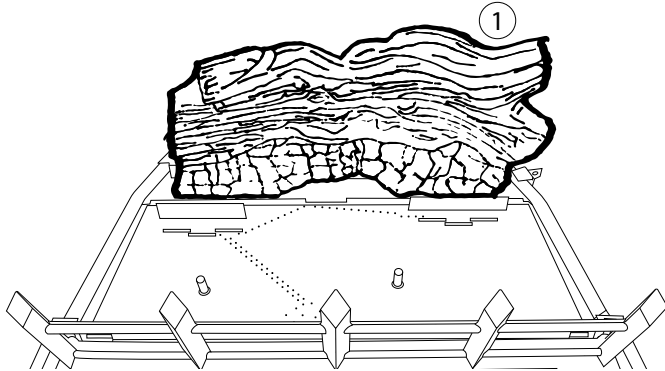

Figure 49.
1. Place the rear log (#1) on the rear pins located on the log support bar. (See Figure 49.)